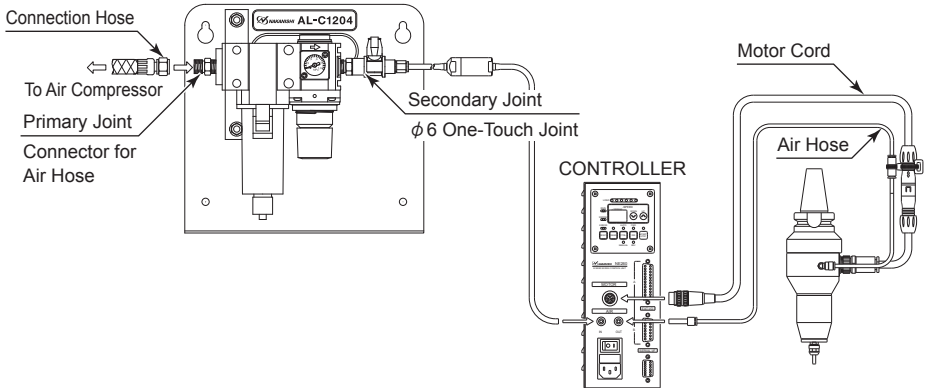

Fig. 20
- ① Connect the Motor Cord and Air Hose as shown in Fig. 20.
- ② Be sure to use the NAKANISHI Air Line Kit (AL - C1204). The CONTROLLER and the Brushless Motor Spindle must be supplied with clean, dry air, regulated to between 0.25 - 0.3MPa (36.2 - 43.5psi). Connect the 6mm air hose from the Air Line Kit (AL - C1204) secondary joint to the CONTROLLER's Air Input Joint. If not using the NAKANISHI Air Line Kit (AL - C1204) a filter / regulator must be installed to supply clean, dry and regulated air to the CONTROLLER and the Brushless Motor Spindle.